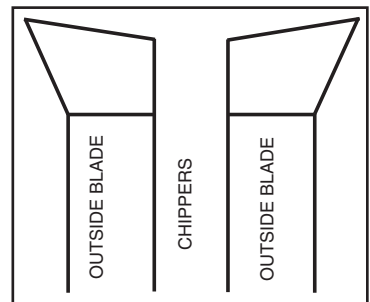

FIG. 69
2. The blade and chipper profile is shown in Fig. 69. Washers, if needed for fine width adjustment, can be placed anywhere between the outside blades and the chippers. A 1/4" (6.4 mm) groove is cut by using the two outside saws alone.